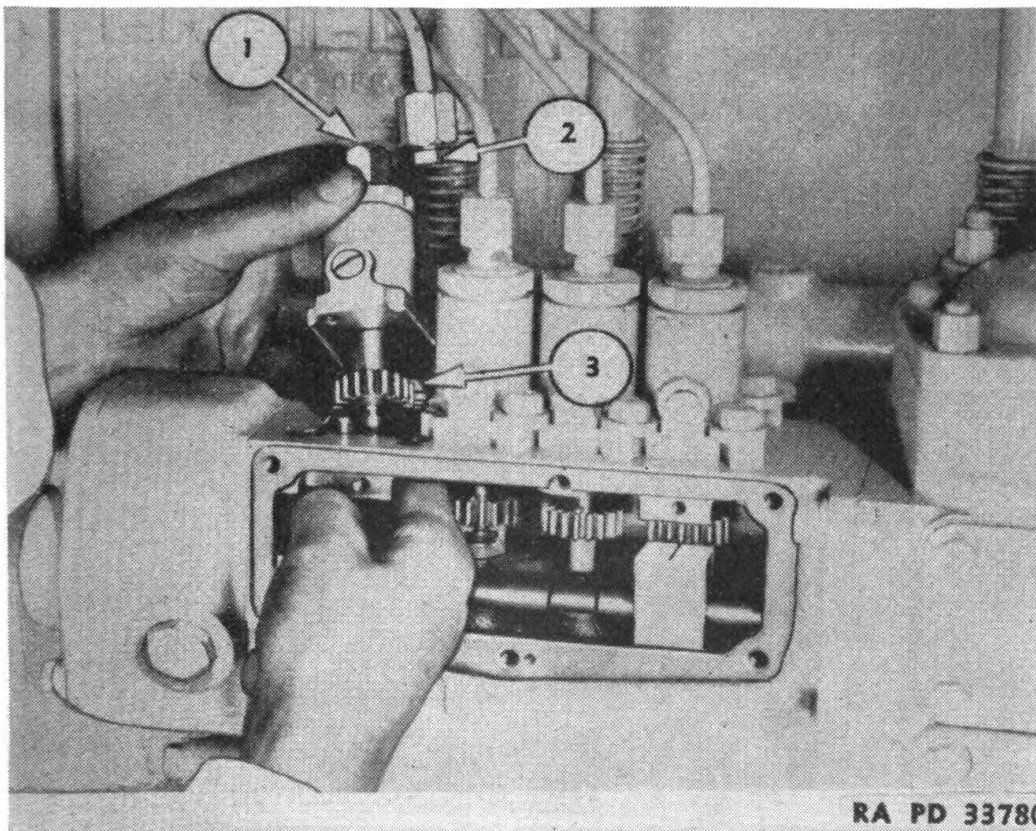

FIGURE 59.—Pump removal.
a. Pump removal.—The end pumps (fig. 59) may be removed from the pump housing without disturbing the other pumps, but neither center pump should be removed until the end pump next to it has been taken out.
(1) After cleaning the top of the housing and around the inspection plate, disconnect fuel injection lines from the pumps and immediately cap the openings with covers (1) and (2).
(2) Remove inspection plate and then the coupling that fastens the rack to the slide bar.